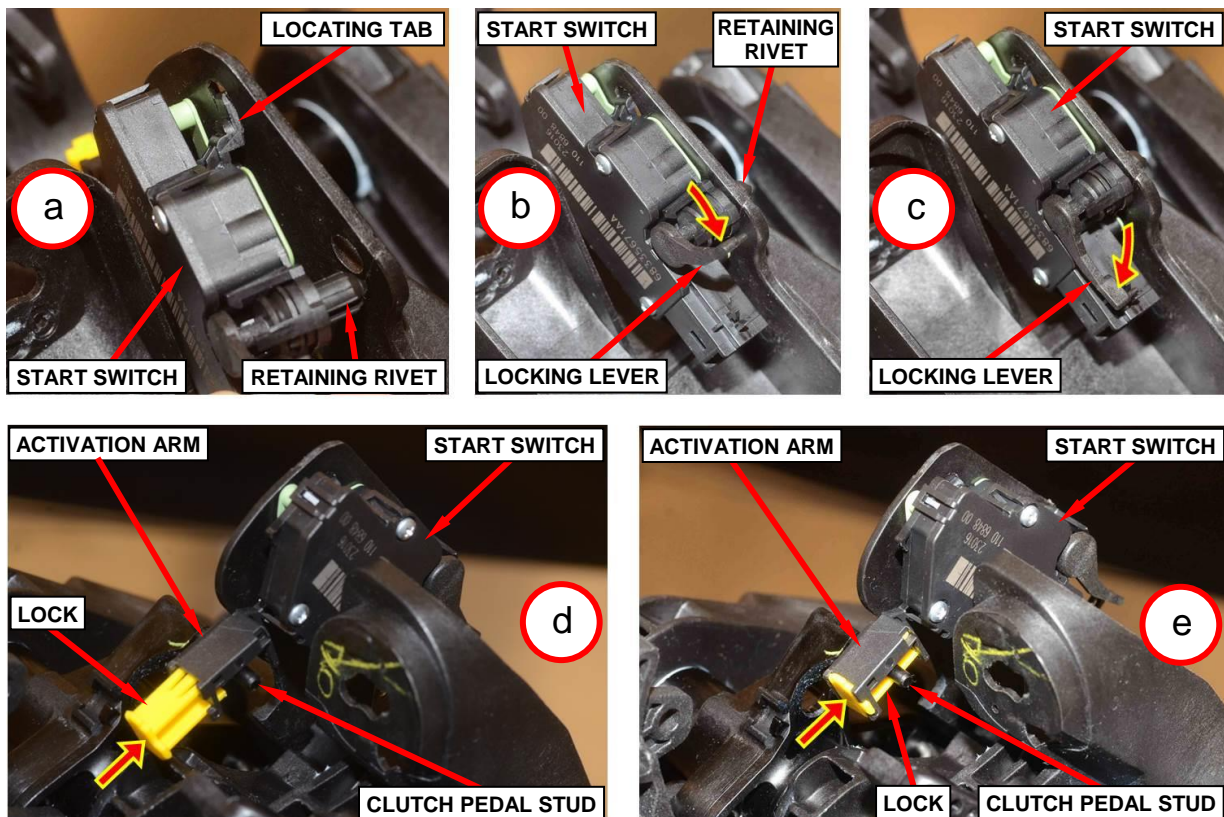

Figure 16 – Clutch Pedal Start Switch Installation
- Insert the switch locating tab into the clutch/brake pedal assembly (Figure 16).
- Insert the switch retaining rivet fully into the clutch/brake pedal assembly (Figure 16).
- Rotate the locking lever down to expand the retaining rivet securing the switch in place (Figure 16).
- Swing the switch activation arm into place making sure to capture the stud on the clutch pedal (Figure 16).
- Lock the switch activation arm in place by pushing the lock inward capturing the clutch pedal stud (Figure 16).